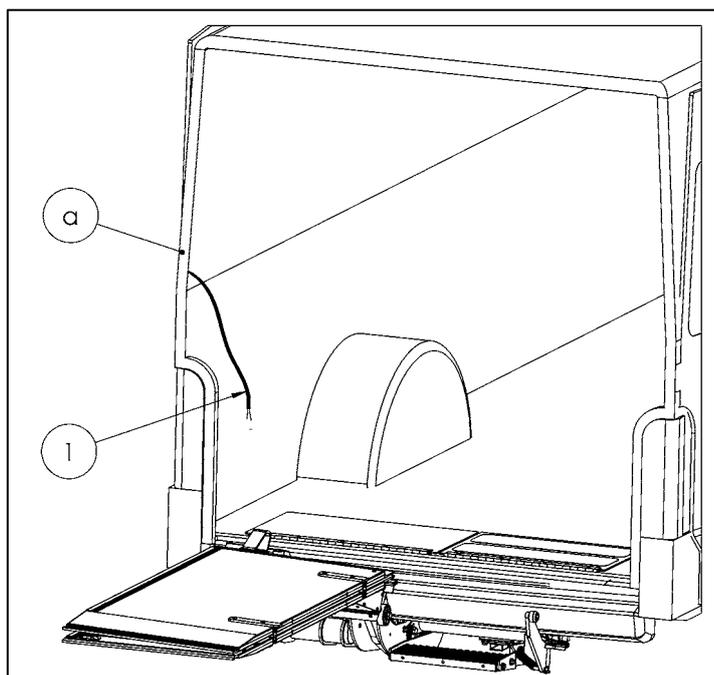

Figure 63
- Find the cable connection point for the license plate light in the column (a) on the ProMaster (see Fig. 63).